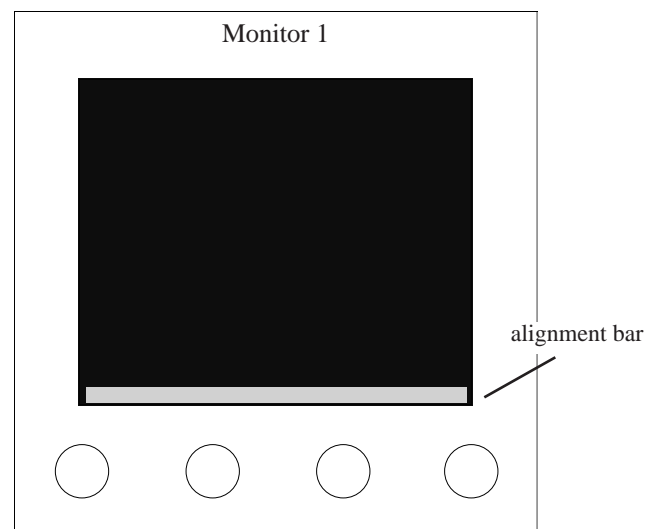

Figure 30 - Placement of Setup Alignment Bar
- E. Adjust the position of the bar with a TV alignment tool, or equivalent, by turning the phase potentiometer, until the line is located as seen in Figure 30. The line should be visible on the screen.
- F. Select the second video input in the system. If the horizontal bar is not in the same location as seen in Figure 30, adjust the sync location on the "video device" (i.e., video camera) until the horizontal bar is located towards the bottom of the screen. If this is not possible, and the alignment bar is located in a different position than it was